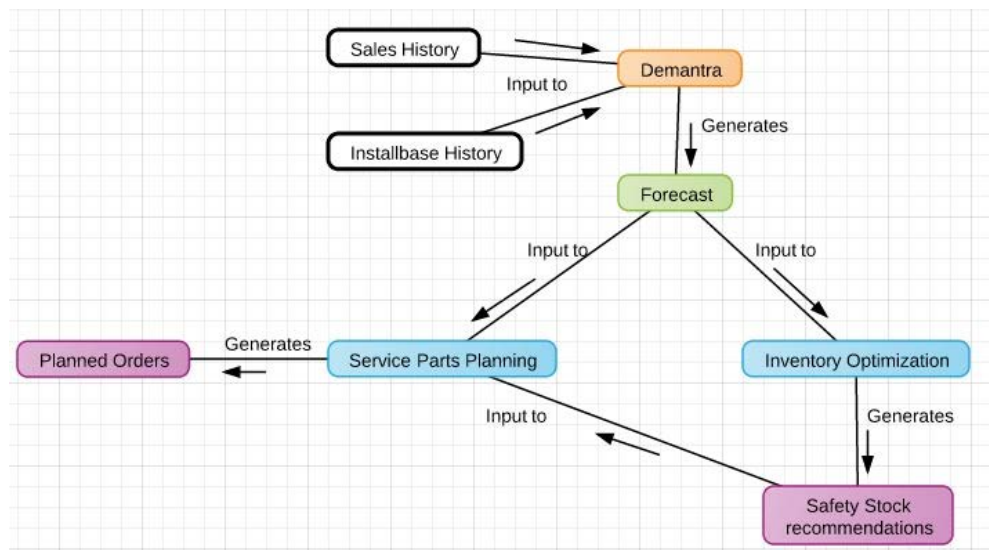

Figure 1: Inventory optimization approach [1]
Dynaplas Ltd, located in Scarborough, Ontario, is a plastics injection moulding company, which produces automotive components using engineered resins. The Engineering Department designs and builds injection moulds and tools for both internal use and commercial distribution. Dynaplas' automotive products include pulleys, connectors, seals, fuel systems, brake parts, and insert bearings. Recently, as part of a continuous improvement effort, Dynaplas examined trends in its customer orders over the last couple of years. They found that, on some occasions, parts were shipped out late and/or in poor condition, resulting in unnecessary and unforeseen costs. Therefore, the Engineering Department launched a project to develop an optimal inventory level prediction model, Figure 1, to ensure that every Dynaplas product is available in sufficient stock to guarantee customers receive quality parts, on time. To begin, all factors involved in developing the prediction model and user interface had to be identified [1].
- Figure 1 – Customer locations